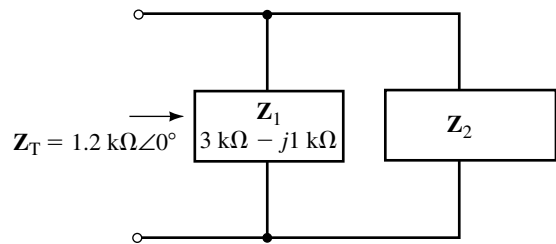

FIGURE 18–108
38. Determine the impedance, Z_2 , which will result in the total impedance shown in Figure 18–108.